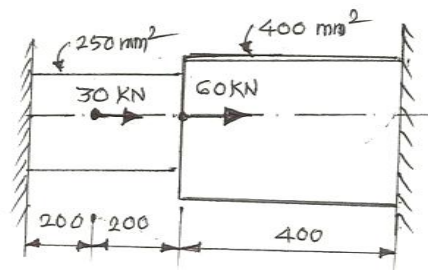

Fig 10
- B Consider the bar shown in fig.10. Determine the nodal displacements, 12